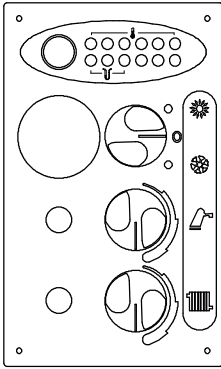

fig. 47
- 1 position the knobs of the panel as illustrate in fig. 47;